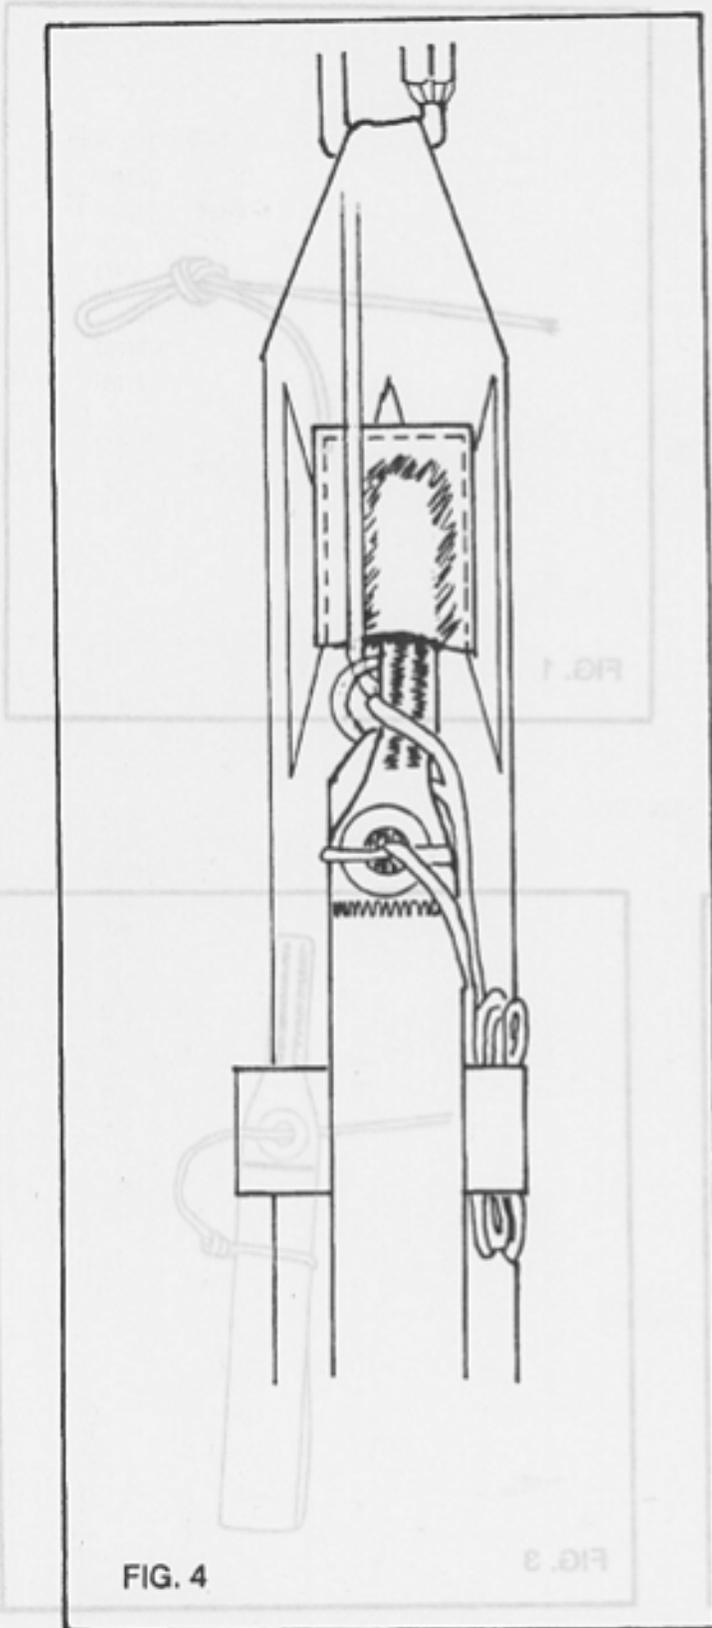

FIG. 4
6) Make two folds up and down the left side of the container and then back across the bottom again as shown in FIG. 4. The rigger may vary the number of folds on each side and the number of passes across the bottom in order to evenly distribute the bulk. The object is to make a "U" shaped pack as symmetrical as possible, with both bottom corners of the container well filled.
To set the deployment brakes, pull the control line downward thru the keeper ring until the brake-set loop is just below the ring. Insert the stiffened portion of the control toggle thru the loop to lock it into position, then insert the end of the stiffened portion up into the toggle pocket just above the keeper ring (FIG. 4). Now stow the slack in the velcro strap and secure the toggle to the velcro on the riser. (FIG. 4 shows the brake-set on the right side; the left brake-set will appear as a mirror image of FIG. 4.)